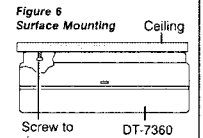

Figure 6
- If using the ceiling tamper, remove the ceiling tamper switch knockout and install a #6 (M 3.5) screw in the ceiling. Leave enough of the screw protruding to depress the tamper switch when the sensor is mounted (see Figure 6).